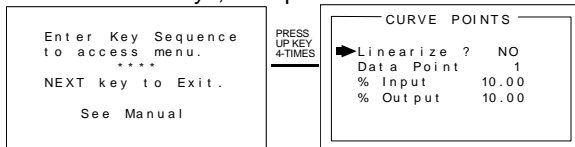

Figure 5-4: Linearization Menu
**Linearization Data** allows nonlinear signals to be linearized by entering the correct curve into the OLCT 200 (Figure 5-4). If Linearize is set for NO, the CURVE POINTS menu data is not used and no linearization is applied. When YES, the CURVE POINT entries are used and a straight-line approximation is calculated between each of the 9 entries. 0% input always provides 0% output and 100% input always provides 100% output. To prevent accidental data entry a special keystroke sequence, of 4 consecutive UP keys, is required to enter this menu.